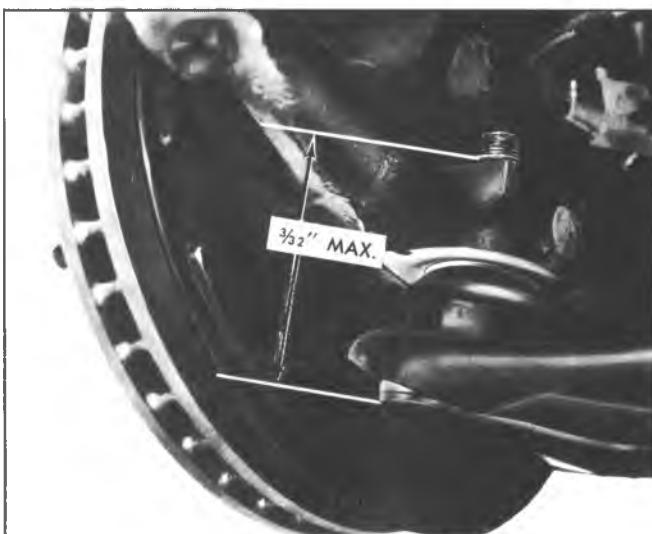

Fig. 35—Checking Lower Ball Joint
3. Move support to control arm to allow wheel hub and drum to hang free. Measure distance as in Step 2. If the difference in measurements exceeds .094" (3/32") for all models, ball joint is worn and should be replaced (fig. 35).